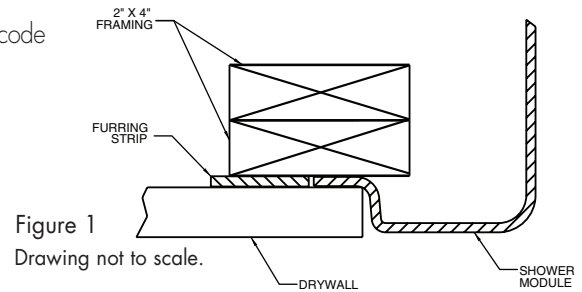

Figure 1
10. Finish front end of the unit with drywall, as shown in [Fig. 1].